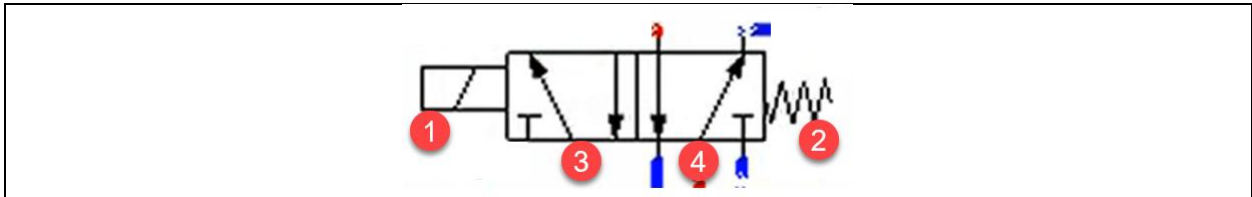

Figure 7. The directional control valve of circuit 1.
4. Which is the default position of the valve in Figure 7?
5. Which device in Figure 7 moves the valve into the actuated position?